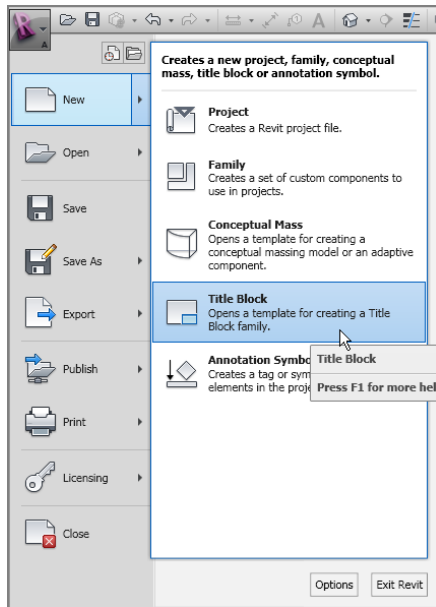

FIGURE 14.24: Creating a new title block
1. Click the Application button, and choose New ➤ Title Block, as shown in Figure 14.24.